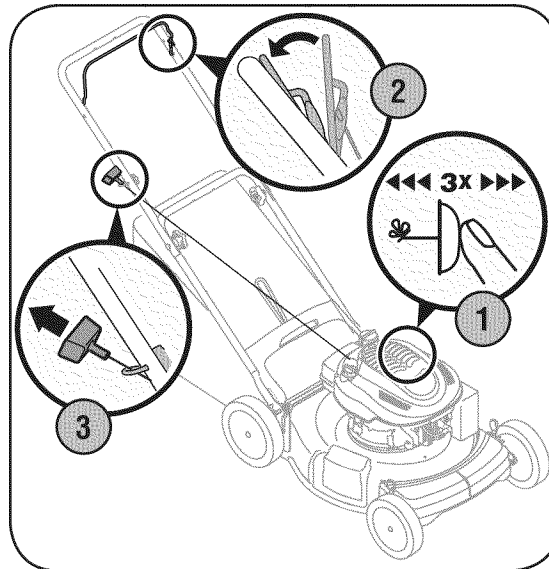

Figure 4-2: Starting the Briggs & Stratton engine.
1. Push primer three times. Wait about two seconds between each push, Figure 4-2. In temperature around 55° F or below, prime five times. Do not prime to restart a warm engine.
2. Standing behind the mower, squeeze the blade control against upper handle, Figure 4-2.
3. Holding these two handles together firmly, grasp recoil starter handle and pull rope out with a rapid, continuous, full arm stroke, Figure 4-2. Keeping a firm grip on the starter handle, let the rope rewind slowly. Repeat until engine cranks. Let the rope rewind each time slowly.